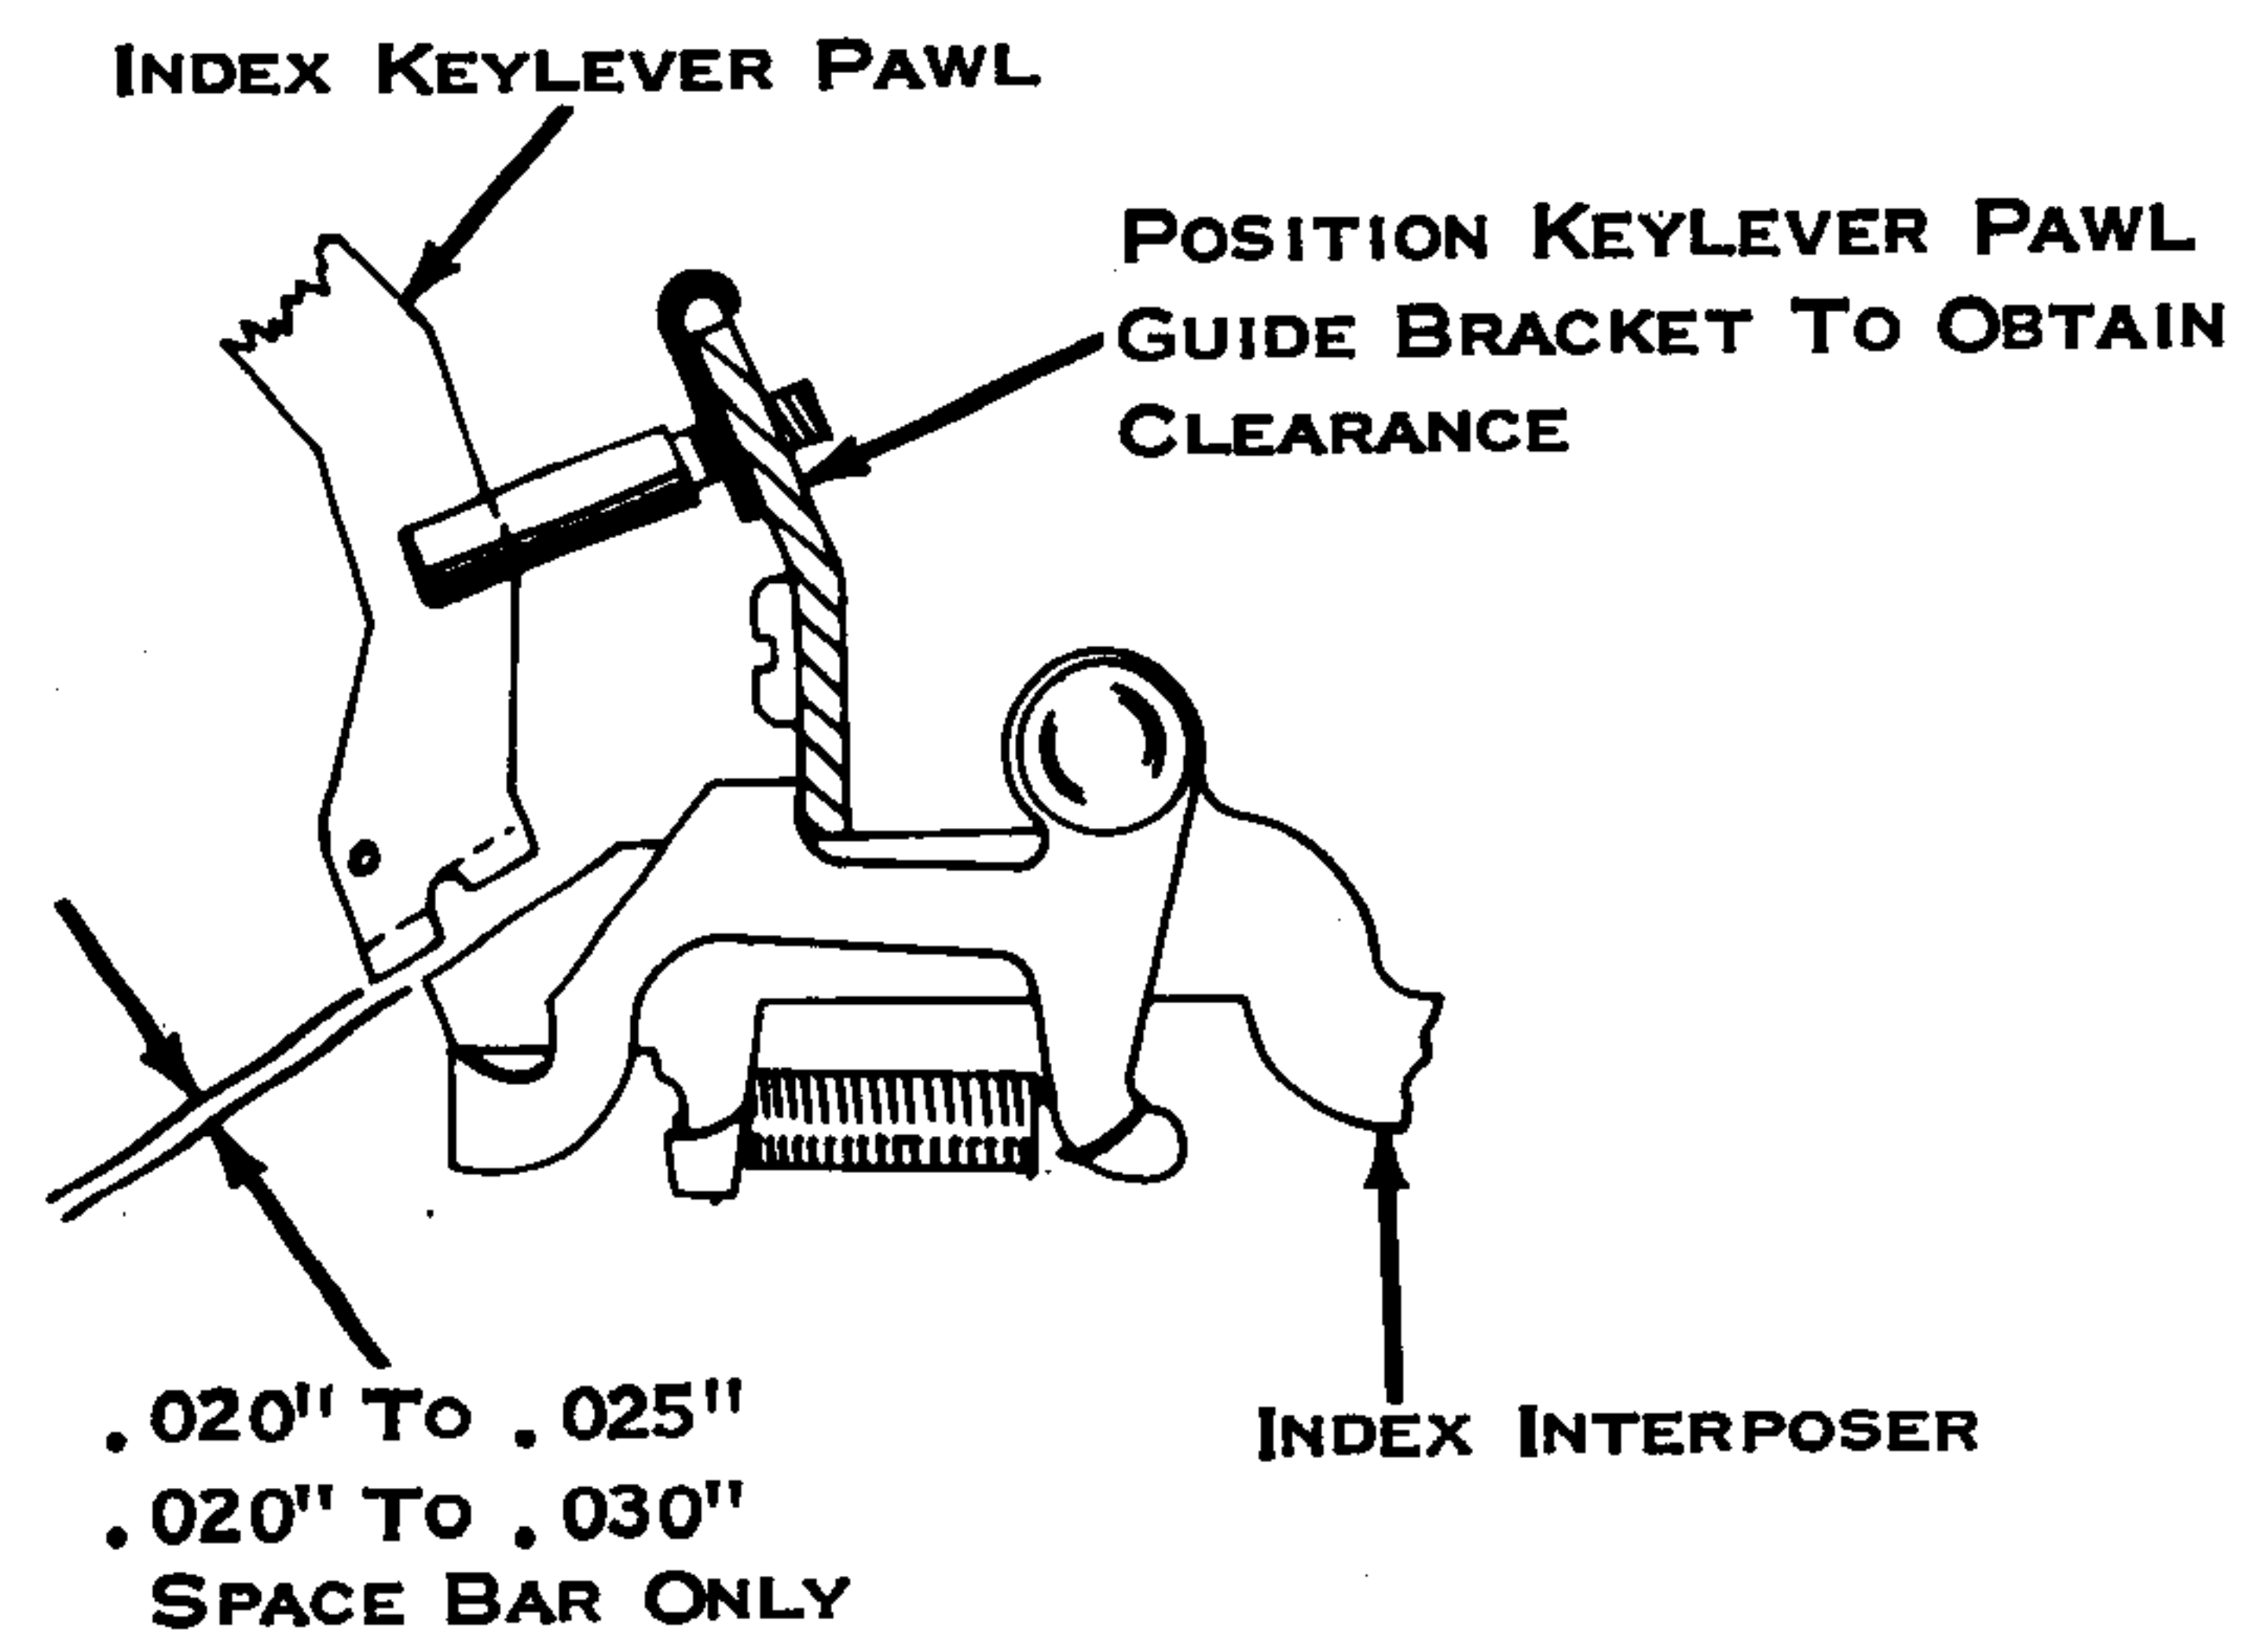

Figure 118. Keylever Pawl To Interposer Clearance
1. Keylever Pawl To Interposer Clearance (Fig. 118) - Position the keylever pawl guide bracket up or down so that a clearance of .020" to .025" is obtained between the index keylever pawl and the index interposer at rest. The individual adjusting slots of the backspace, carrier return, and tab keylever should be adjusted to obtain .020" to .025" clearance between the keylever pawl and the interposer at rest. The spacebar lever eccentric should be adjusted with the high point forward to obtain a keylever pawl to interposer clearance of .020" to .030".